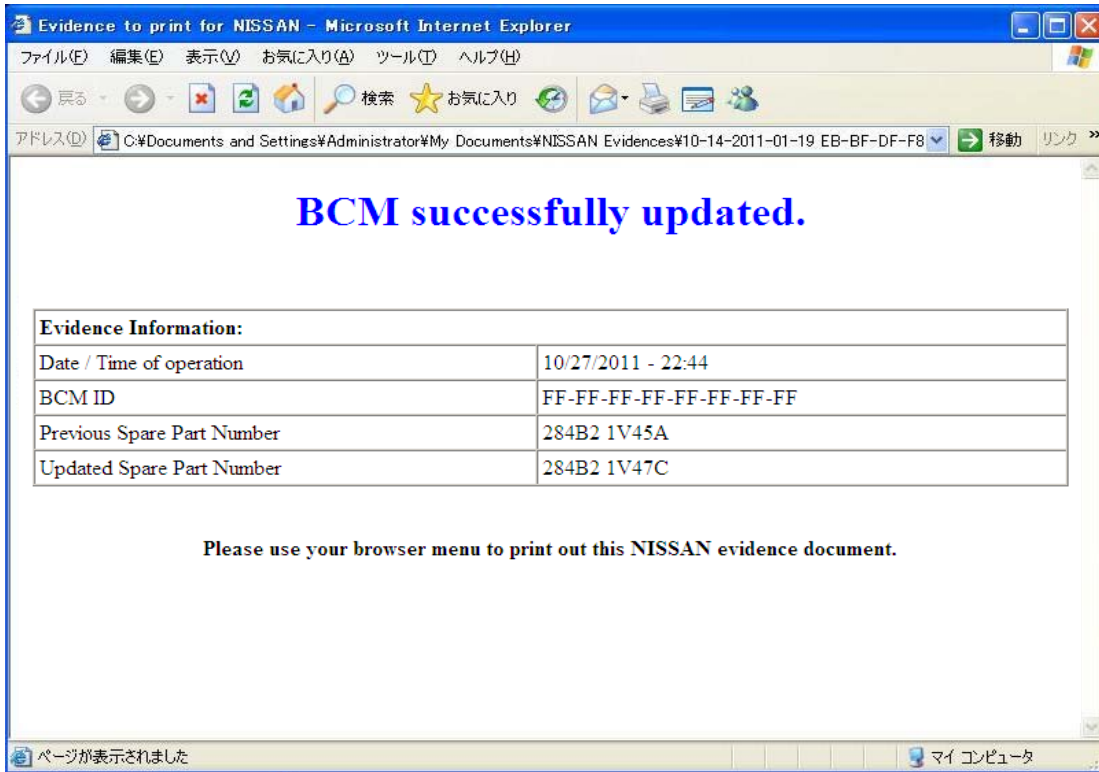

Figure 6
**NOTE:** When OK is selected, Internet Explorer will automatically launch and the screen in Figure 6 (shown on the next page) will display.
17. Print the Internet Explorer screen shown in Figure 6 and attach a copy to the repair order.